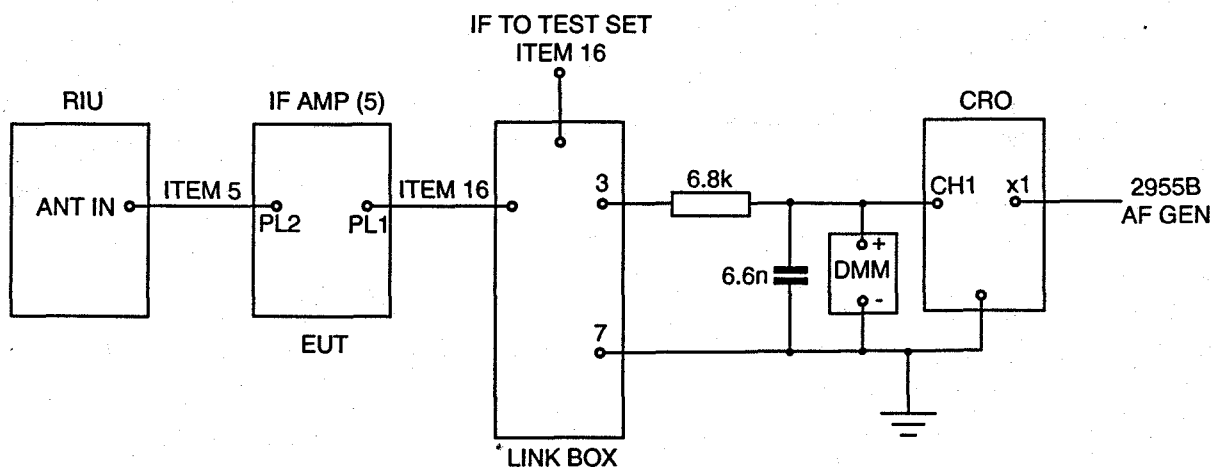

Fig 7 Discriminator alignment - test connections
398.2 Maintain the 8920C setup, and with the PSU (7) and IF amplifier (5) mounted on the test set, connect the equipment as shown in Fig 7, including the 6.8 kohm resistor (Table 1, Serial 21) and the 6.6 nF capacitor (Table 1, Serial 22).